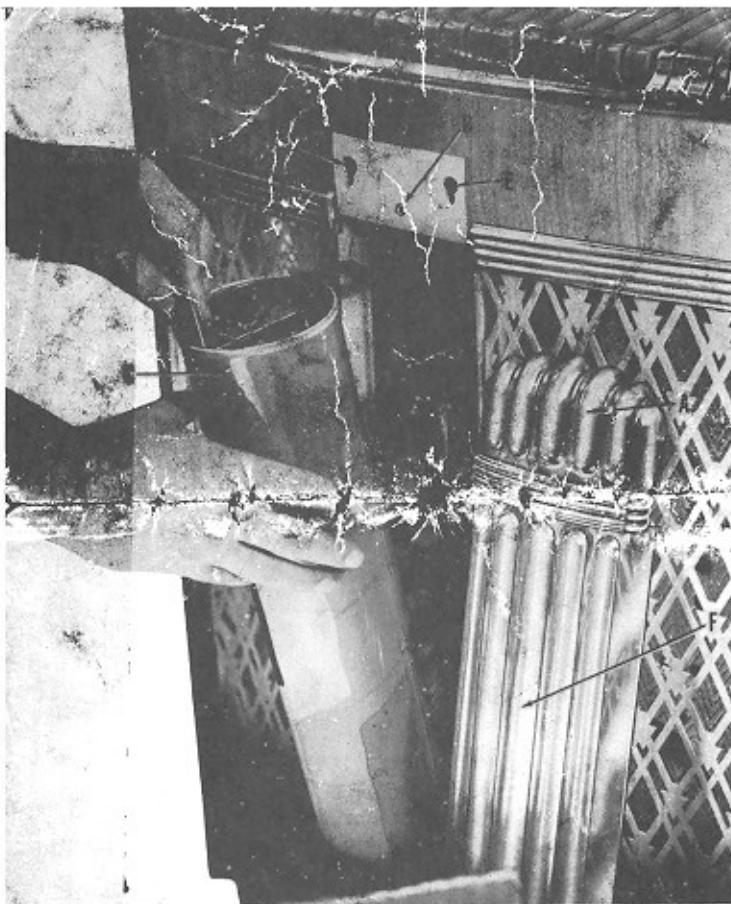

Fig. 4 – Magic-Glo Panel
2. Raise metal cap and Magic-Glo panel (A and F-Fig. 4) upward until screws in metal cap touch top of slots (D and E-Fig. 4).
5. Remove bracket screw from threaded hole (B-Fig. 4).